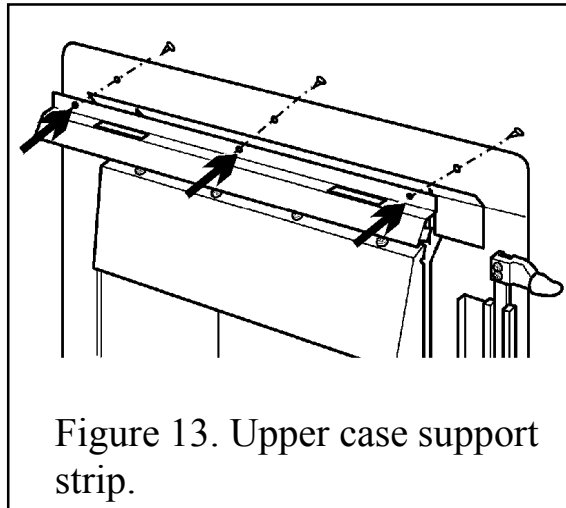

Figure 13. Upper case support strip.
7. Fit the upper case support strip to the top of the convection box, using three screws inserted from the back of the appliance. See figure 13.